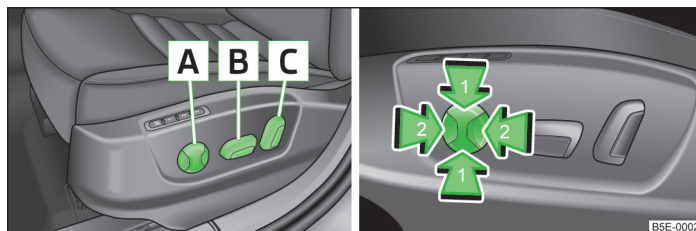
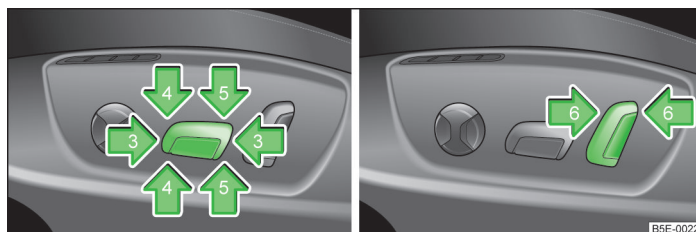

Fig. 47 Controls for the electric seat adjustment I
Fig. 48 Controls for the electric seat adjustment II
- Push the switch » Fig. 47 in the direction of one of the arrows 3 » Fig. 48.
- Push the switch » Fig. 47 in the direction of one of the arrows 5 » Fig. 48.
- Push the switch » Fig. 47 in the direction of one of the arrows 4 » Fig. 48.
- Push the switch » Fig. 47 in the direction of one of the arrows 6 » Fig. 48.
- Push the switch **A** » Fig. 47 in the region of one of the arrows 2.
- Push the switch **A** » Fig. 47 in the region of one of the arrows 1.